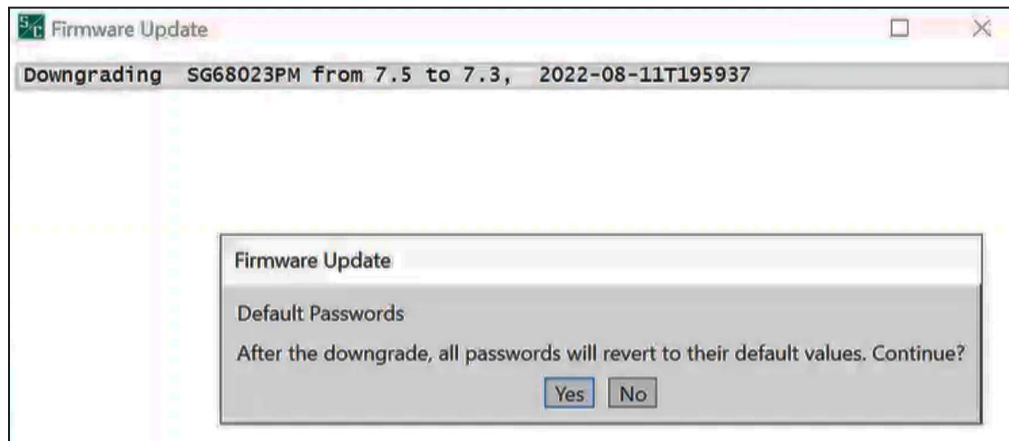

Figure 36. The Default Passwords downgrade message.
STEP 18. When downgrading from a software version of 7.3.100 or later to a software release earlier than 7.3.100: A message appears about the passwords being reverted to defaults during the downgrade process. Click on the **Yes** button to proceed with the downgrade. Selecting “No” will stop the downgrade process. See Figure 36.